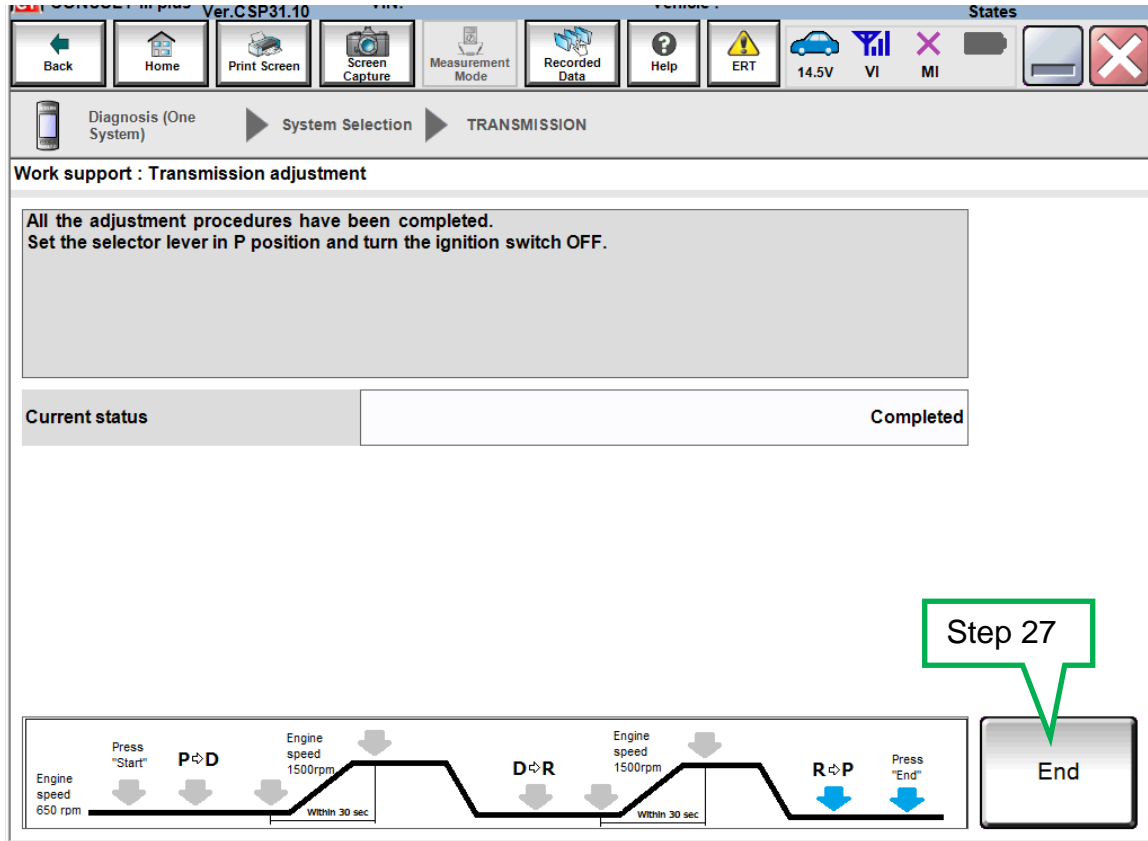

Figure 8
- When complete the screen in Figure 8 (next page) will display.
25. When the Transmission Adjustment has completed (see Figure 8), shift the transmission to Park.